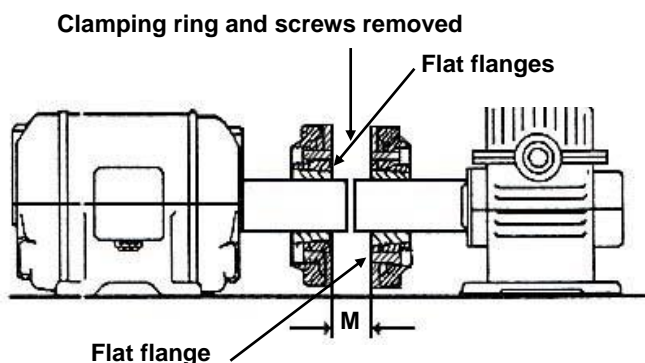

FIG 44.
A. Remove all the clamping ring screws and both the clamping rings. (Fig 44)
B. From the coupling chart (**Table 1 or 2 at the end of this section**) determine dimension “M”, i.e. the distance between the flange faces. (Fig 44)